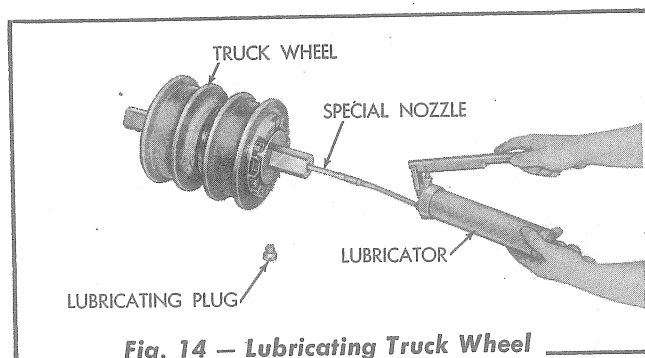

Fig. 14 — Lubricating Truck Wheel
8. Using a hand lubricator and special lubricating nozzle as shown in Fig. 14, fill the truck wheel assembly with the specified grease. Pump the grease in slowly, while holding the nozzle firmly against its seat in the shaft, until grease is forced out the end of the shaft around the nozzle. This will indicate the truck wheel is full. Approximately 1 $\frac{3}{4}$ pounds of grease is required to fill each truck wheel. Install the lubricating plug and gasket and tighten the plug to a torque of 100 lbs. ft. Install the two attaching brackets in position on the truck wheel shaft.
8. Use a hand lubricator and the special lubricating nozzle as shown in Fig. 14 and fill the support roller assembly with the specified lubricant. Pump the lubricant in slowly, while holding the nozzle firmly against its seat in the shaft, until grease is forced out the end of the shaft around the nozzle; this will indicate the roller is full. Approximately one pound of grease is required to fill the track support roller assembly. Install the lubricating plug and gasket and tighten the plug to a torque of 100 lbs. ft.